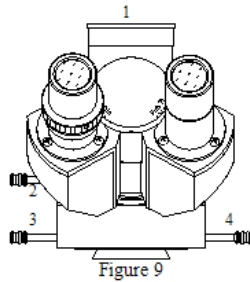

Figure 9
- 7) The polarizing analyzer is used in conjunction with the polarized filter cube, selected by pushing in the blue filter rod, see figure 9. Push polarizer to working position, rotate it while watching the brightness in the field and let the polarizer and analyzer orthogonally.